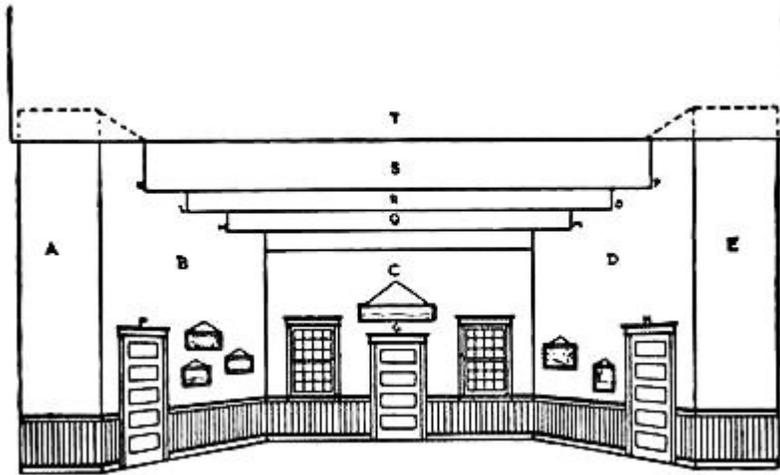
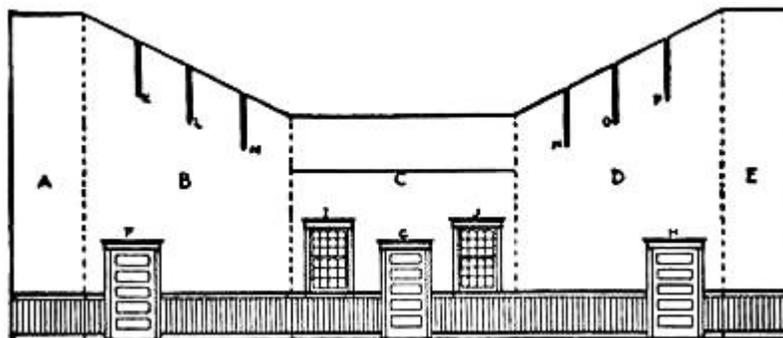

FIG. 343.—A Simple Interior Scene.
FIG. 344.—Pattern for Walls of Interior Scene.
**An Interior**, as you will probably have occasion to use one in any play you produce in your miniature theatre. Figure 343 shows a simple interior, the size of which will, of course, depend upon that of the stage. However, it should not be very deep. Figure 344 shows the pattern by which to cut the five pieces of cardboard, of which the walls are made. The edges of these pieces should be glued together with strips of linen. Cut the door openings at *F*, *G*, and *H*, two
window openings at *I* and *J*, and slots in the tops of *B* and *D* at *K*, *L*, *M*, *N*, *O*, and *P*, as shown in the drawing. Make the doors out of pieces of cardboard, hinging them to the openings with linen strips, and draw the window-sash and their divisions upon tissue-paper and paste them over the openings *I* and *J*. Oil the paper if it is not very transparent, so the audience can see the villain when he passes by the windows. Make a wainscoting around the walls to the height of the window-sills, ruling the boards with a lead pencil, and draw a line across wall *C* a little below the bottom of slots *M* and *N* in walls *B* and *D*, as shown. If you have used white cardboard for the walls, and not injured its calendered surface when cutting the openings, it will have a good plaster appearance. Otherwise, cover the cardboard with white or tinted paper. Paint the wainscoting and the door and window trimmings brown. To set up the room, bend the walls into the shape shown in Fig. 343. Then cut three strips of cardboard several inches longer than the width of the room and slip them into the slots you have cut in the tops of the walls *B* and *D* (see *Q*, *R*, and *S*, Fig. 343). *T* is a drop like *S*, but is suspended in front from the gridiron. These strips form the ceiling of the room, and generally have beams or mouldings painted across their bottom edges, but it will simplify matters to leave them plain, as shown in the illustration. The line which you have drawn across the rear wall corresponds with these strips. Cut a number of illustrations from a magazine for pictures, and either hang them upon the walls or paste them to the cardboard. Doll furnishings can be used to complete the scene.
In an interior scene, such as Fig. 343, the jointed figures will have to make their entrées and exits through the passages between the front walls and the proscenium, as the operating cords would interfere with them going through the other openings. The figures